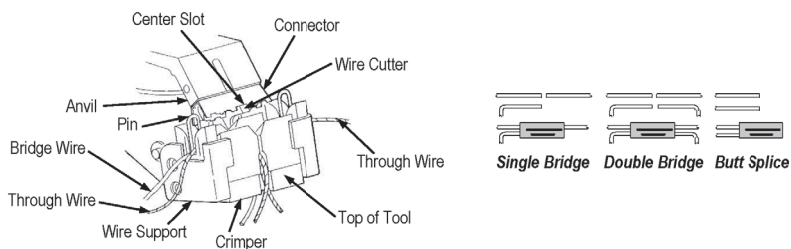

Figure 5
5.3. Bridging Connectors (See Figure 5)
4. Insert a connector into the tool as shown in Figure 5. Make sure the wire cutter enters the slots in the center of the connector.